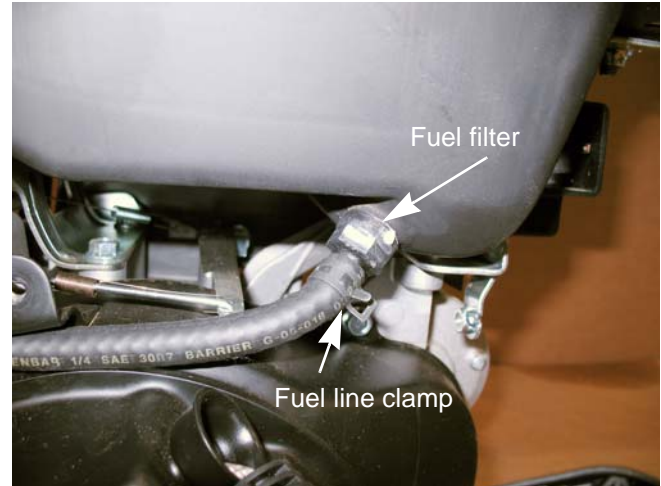

Figure 1.7
- 3a. Squeeze the tabs on the fuel line clamp with a pair of pliers while sliding the clamp down the fuel line away from the nipple. See Figure 1.7.